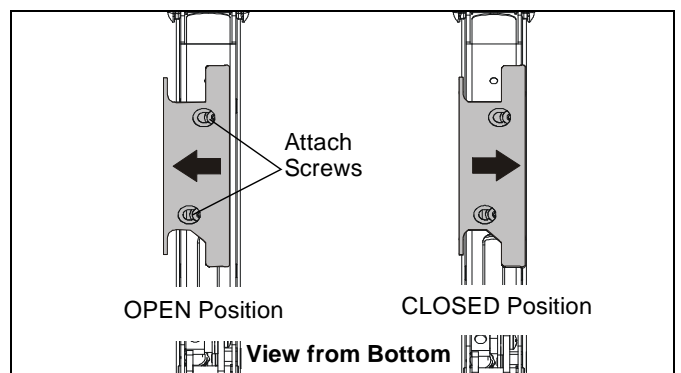

Figure 52
1. Open the cable management bracket by sliding it towards the edge of the arm. (See Figure 52)